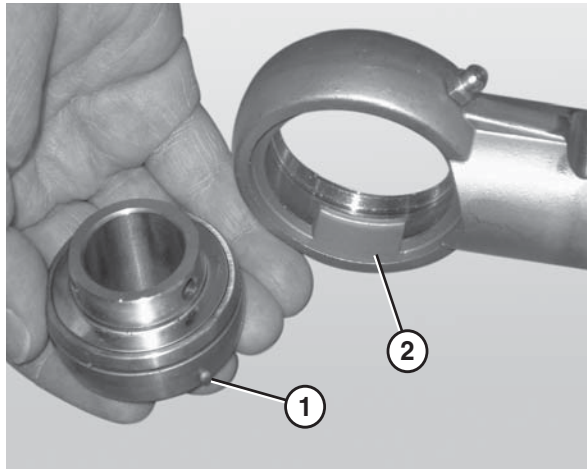

Figure 72
4. Remove the worn or damaged bearing (**Figure 72**).
*When inserting the new bearing, make sure the anti-rotation notch (**Figure 72, item 1**) on the bearing lines up with the groove inside the housing (**Figure 72, item 2**).*